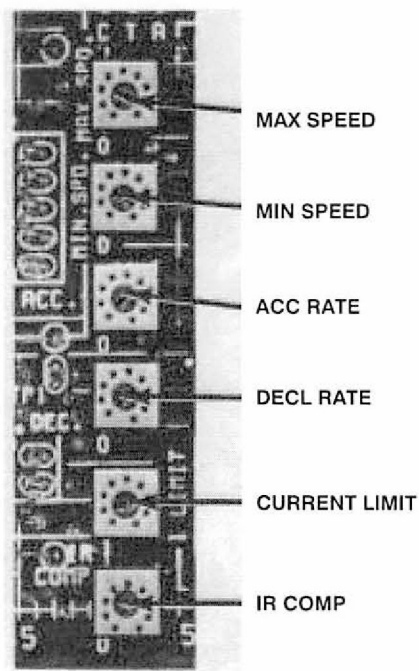

Figure 4.1 – Regulator Module Potentiometers
**4.3.1 Regulator Module Pots** – The Regulator Module has six adjustable potentiometers mounted on it. (Refer to Figure 4.1.) They control the following functions:
Locate the Maximum Speed Potentiometer on the Regulator Module. (Refer to Figure 4.1.) The letters MAX SPD are printed on the Module. Note that CW rotation represents an **increase** in speed. CCW represents a **decrease**.